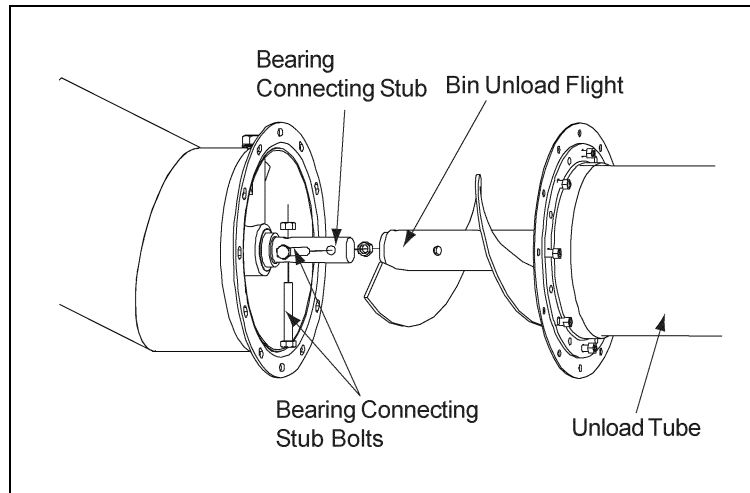

Figure 4D
- E. With holes aligned secure with Bearing Connecting Stub Bolts and Nuts that were removed in step 4-B. (See Figure 4D)